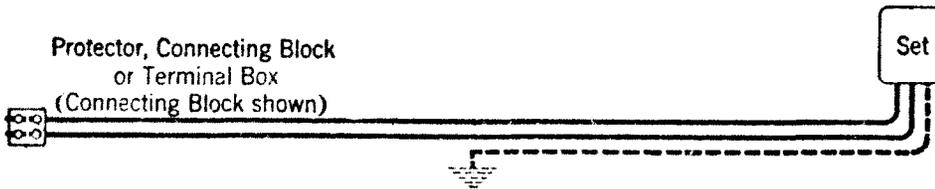

Fig. 2.
5.04 If in converting these stations the existing wire is in good condition and is either pair bridle or pair olive inside wire, add a single brown inside wire for ground connection unless appearance requires the replacement of the entire wire run. If existing wire is pair white inside wire, add a single ivory inside wire for ground connection as shown in Fig. 2.